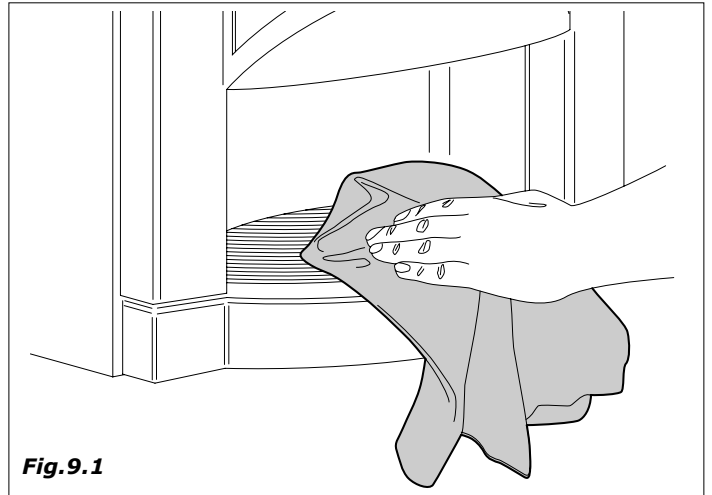
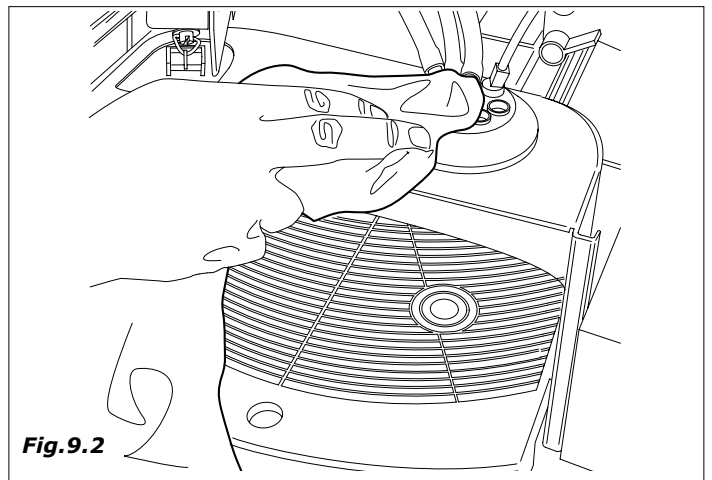

Fig. 9.1
Fig. 9.2
- clean all the visible parts in the dispensing area. (Fig. 9.1 e Fig. 9.2)